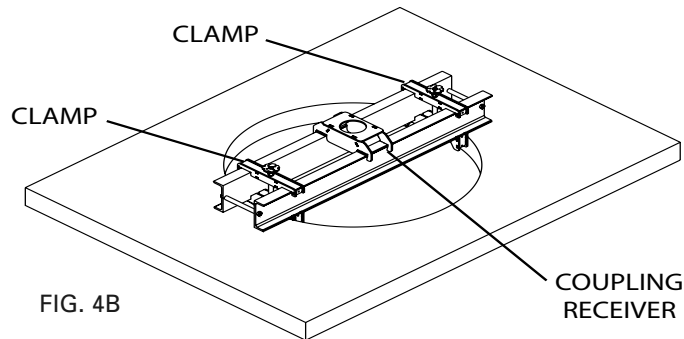

FIG. 4B
2. Loosen the knobs on the two clamps and slide the clamps outward until they touch the rim of the manhole. Tighten the knobs on both clamps to secure against the rim of the manhole. (See Figure 4B).